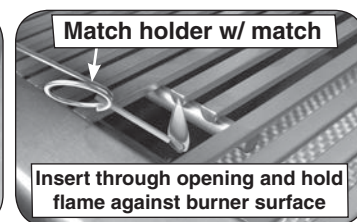

Fig. 25-3 Manual lighting via match holder
- Grills equipped with an infrared burner include a wire extension match holder (attached to drip tray) to assist with manual lighting (see Fig. 25-3).
4. If the burner does not light within five (5) seconds of turning the control knob, **immediately depress the knob and turn the valve to OFF**. **WAIT FIVE (5) MINUTES** before repeating steps 2 through 4 of the MANUAL LIGHTING instructions.